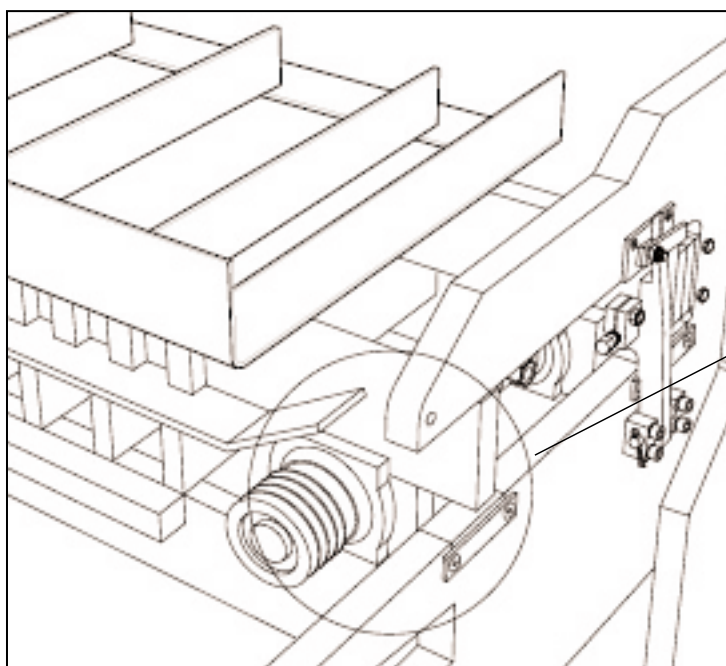

Figure 5.21 CENTERING THE MOLD.
5.5.18 Check for centered position in machine. Mold is centered when mold side bars are approximately 1" [25.4mm] between vibrator bearing blocks and the inside of mold throat plates (see figures 5.21 and 5.22).